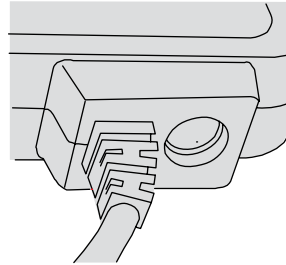

Figure 2 DC input port, disconnected
- 6 DC input port, connected. See also Figure 2.